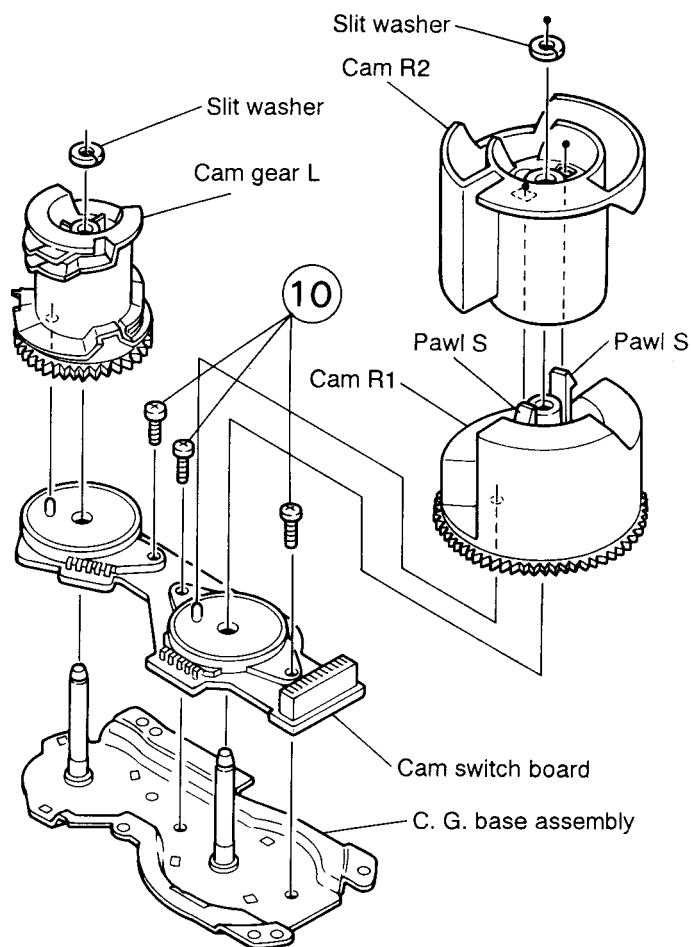

Fig. 5-44
■ Removing the cams R1/R2 assembly and cam gear L (See Fig. 5-44).
2. By removing the two pawls (S) fixing the cam R1, separate R2 from R1.
(See Figs. 5-44 and 5-45)